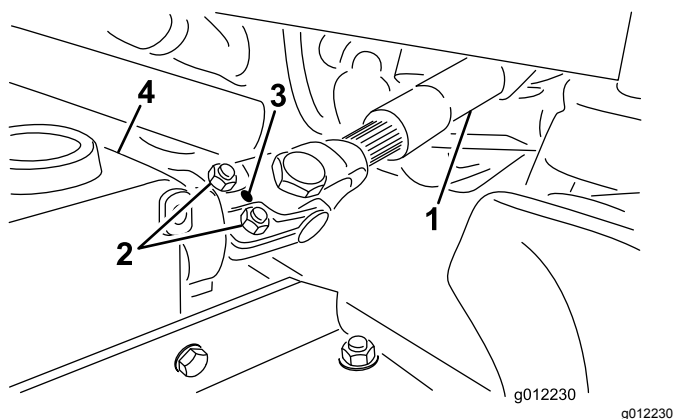

Figure 3
- A. Remove the roll pin from the end yoke and the gearbox shaft (Figure 3).
- B. Loosen the 2 bolts and locknuts (Figure 3).